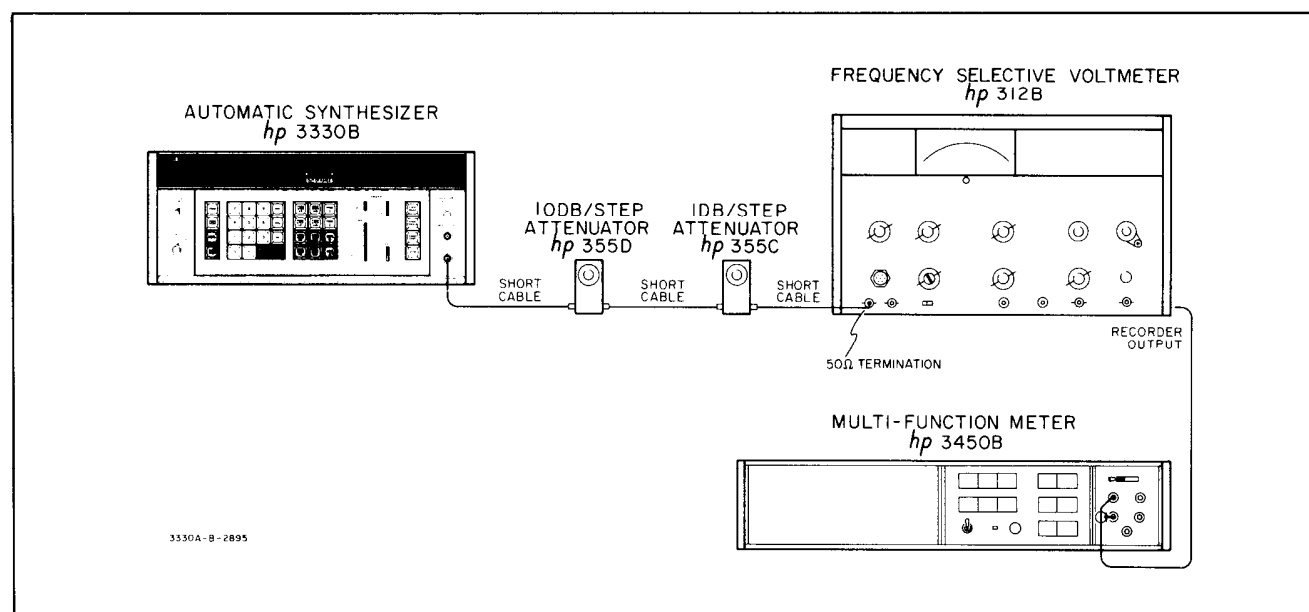

Figure 5-6. 3330B Attenuator Accuracy.
a. Connect the equipment as shown in Figure 5-6.